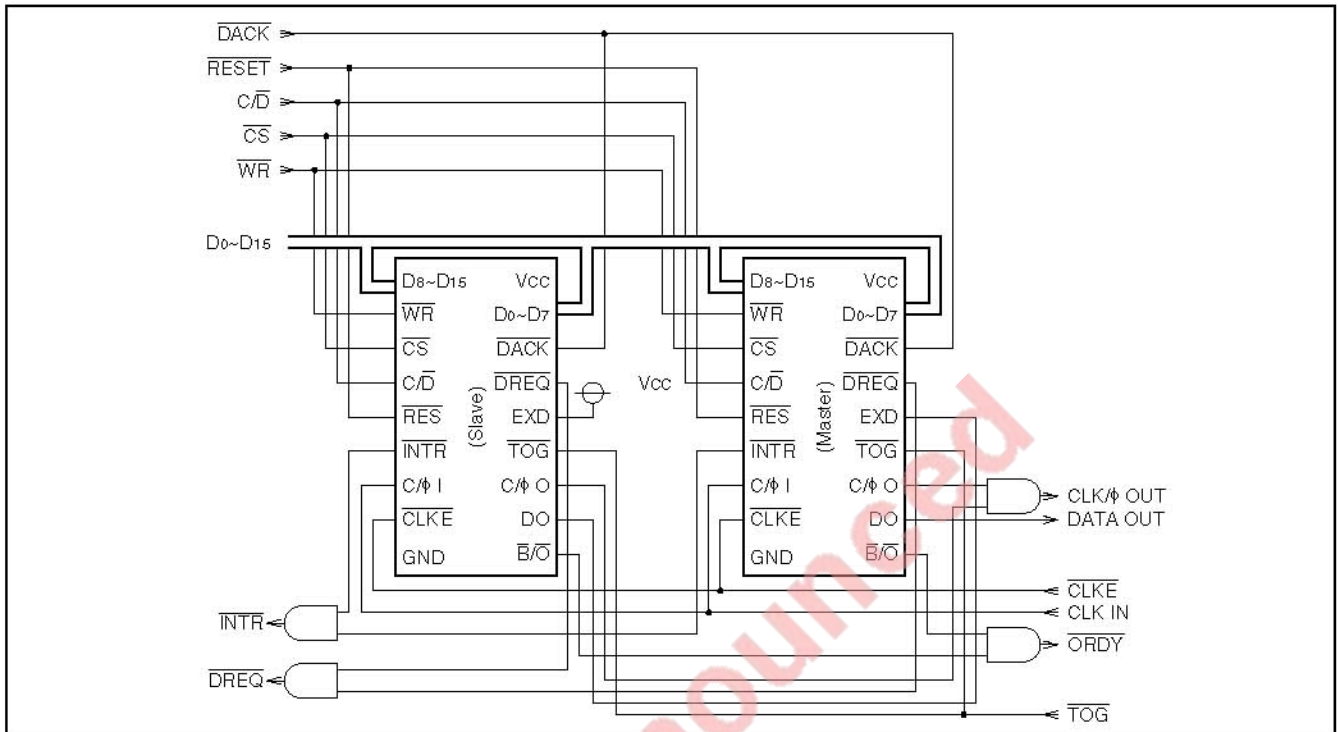

Fig. 12 Wiring diagram of toggle configuration
- Toggle operation is feasible when the circuit is connected as shown in Fig. 12.